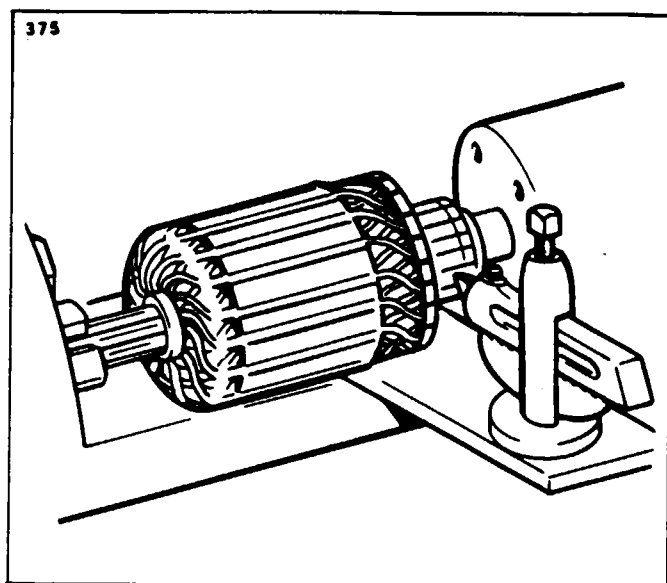

Figure 11-24. Turning Motor Commutator
a. Check the commutator for uneven wear, excessive glazing or evidence of excessive arcing, refer to Table XI-III. If only slightly dirty, glazed or discolored, the commutator can be cleaned with 00 or 000 sandpaper. If the commutator is rough or worn, it should be turned in a lathe. (Refer to Figure 11-24.) The armature shaft should be inspected for rough bearing surfaces and rough or damaged splines.